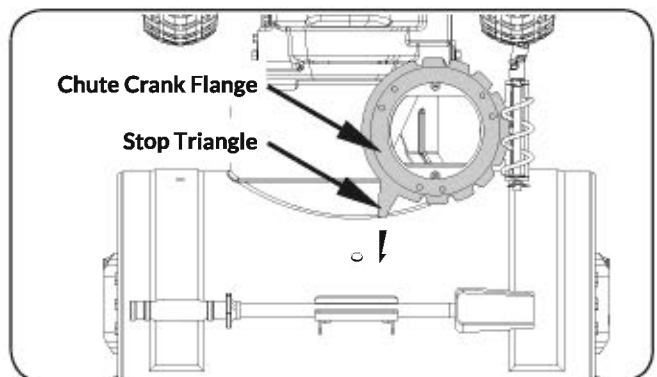

Figure 4a
1. Sit the chute crank flange on top of the impeller housing. Make sure the stop triangle points forward so that the notched edge is on the left side and the pre-greased surface is on the bottom. (See **Figure 4a**)